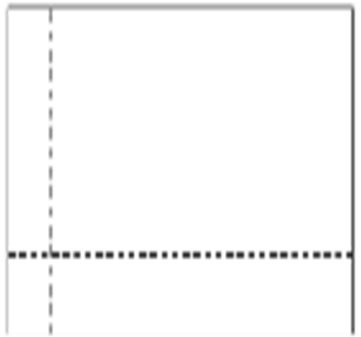

Figure 2 Chalk lines
- Move the chalk lines to the corner or end of the room farthest from the doorway. These lines should be 2' or 3' from the wall depending on your reach (Figure 2).